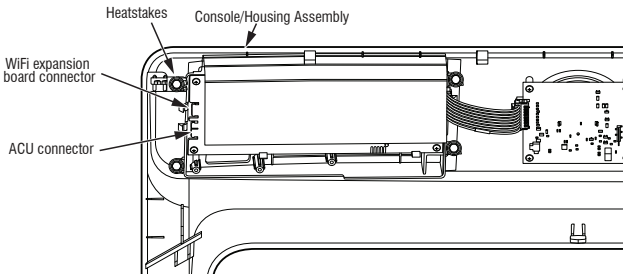

Figure 5 - Human-Machine Interface (HMI), Console/Housing Assemblies
5. Visually check that all HMI connectors are inserted all the way into the HMI. See Figure 5.